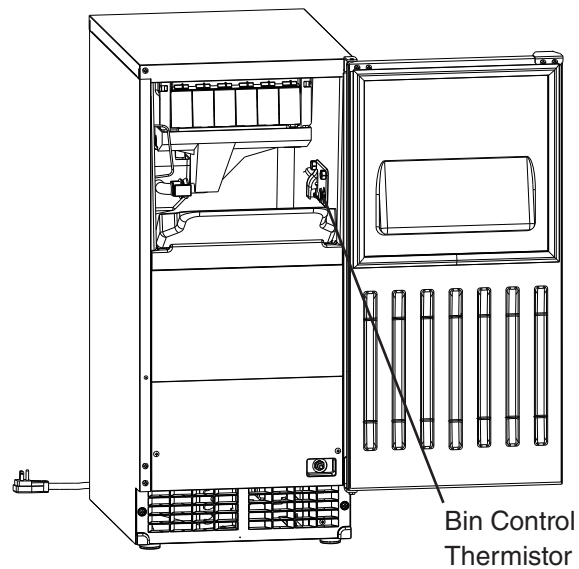

Fig. 33
- 11) During the first 5 minutes of the freeze cycle (compressor energized), confirm bin control operation by holding ice in contact with the bin control thermistor. See Fig. 33. The appliance shuts down within 30 sec. Remove the ice. After 30 sec. the appliance restarts the automatic icemaking process.